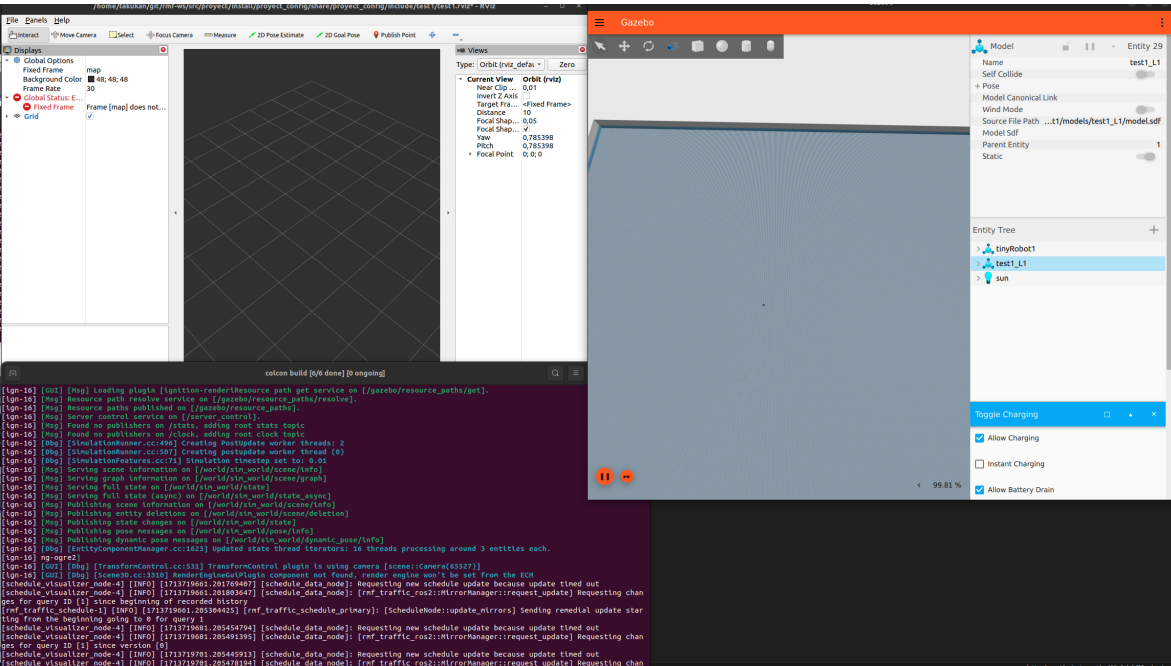

Figure 10: First Launch
- As observed in Figure 10, two windows should pop up: Gazebo (with a 3D representation of the map) and RViz (initially empty but can be configured to show important information about lanes and robots).